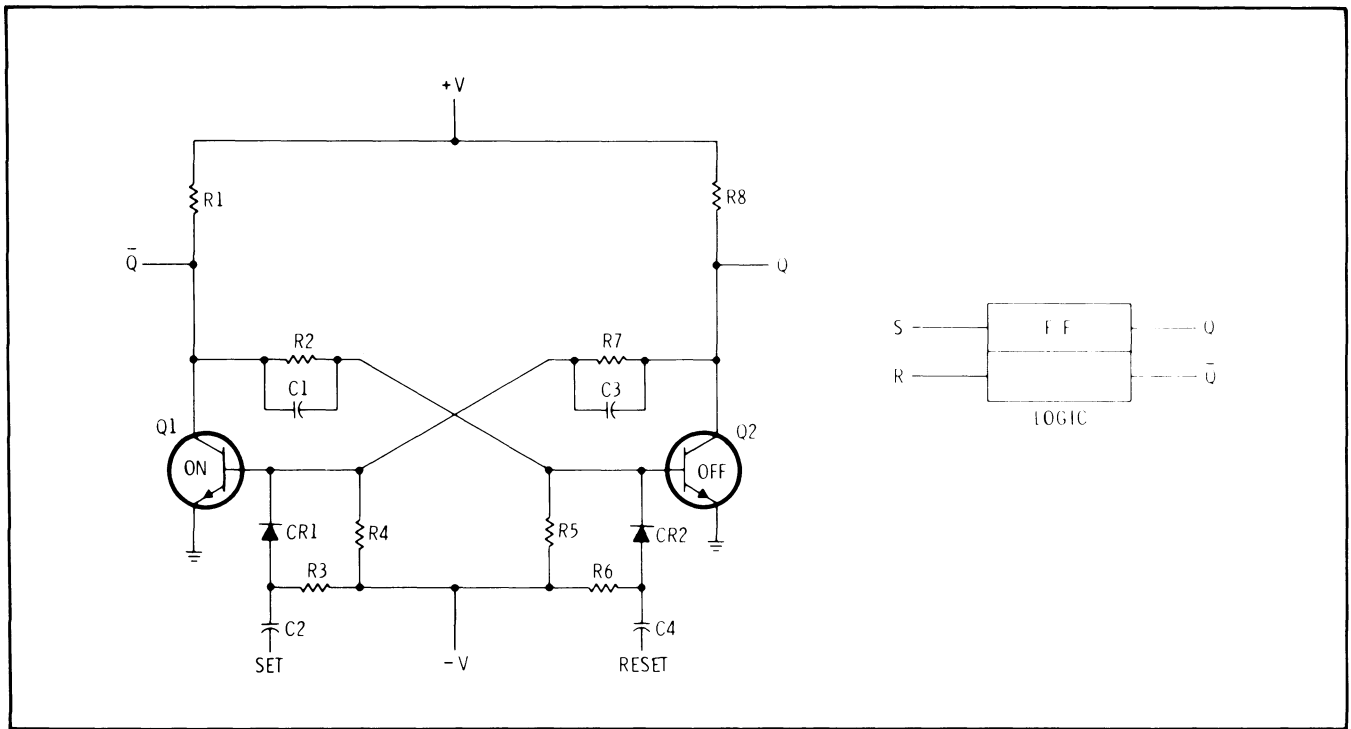

Figure 8-8. RS Flip-Flop
8-38. (RS) Flip-Flop. Figure 8-8 shows an RS flip-flop. The RS flip-flop has two inputs, S for Set and R for Reset (sometimes labeled S for set and C for clear). Assume that initially Q is high (Q2 off) and \bar{Q} is low (Q1 on). In this state the flip-flop is set and a positive pulse at the set input will not affect the circuit. When a positive pulse is applied to the reset input, it is coupled through C4 and CR2 to the base of Q2. Q2 begins to conduct and the negative-going collector voltage is coupled through C3 to the base of Q1 to cut Q1 off. The process is regenerative; Q1 is quickly cut off and Q2 saturates. The flip-flop remains in the reset state until a positive set pulse is applied through C2 and CR1 to the base of Q1. Note that operation of the RS flip-flop is the same as operation of the basic NOR gate flip-flop described earlier.